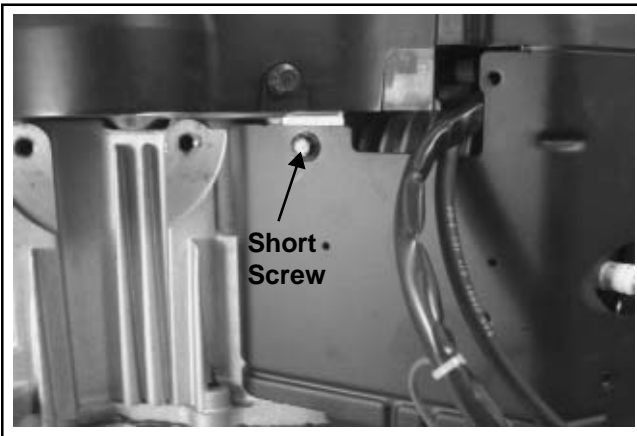

Figure 9-22. Note Location of Short Screws.
3. Remove the three (each side) hex. flange screws securing the outer baffles. Note the location of any lifting strap and the position of the two short screws (one each side on bottom) for reassembly. See Figure 9-22.